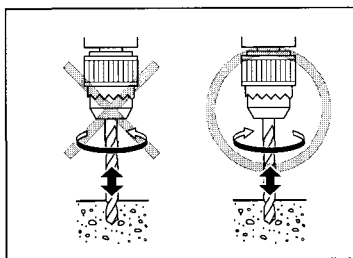

Fig. 1
6. **ALWAYS** set the bit rotation switch lever to the R-side when boring concrete or similar hard materials in IMPSCT mode. (Fig. 1)